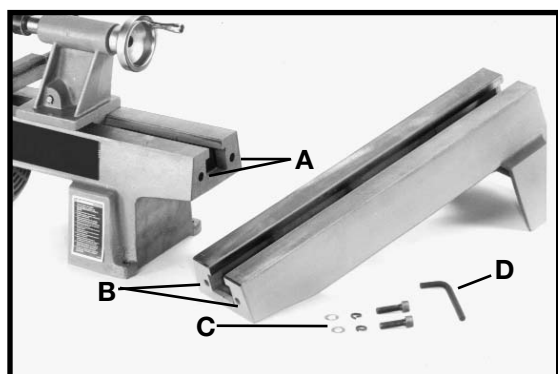

Fig. 32
1. Align the two holes in the end of the lathe bed (A) Fig. 32 with the two holes (B in the end of bed extension) and fasten with two M10 x 40 x 1-1/2" hex head screws, lockwashers, and flat washers (C) using the supplied wrench (D).